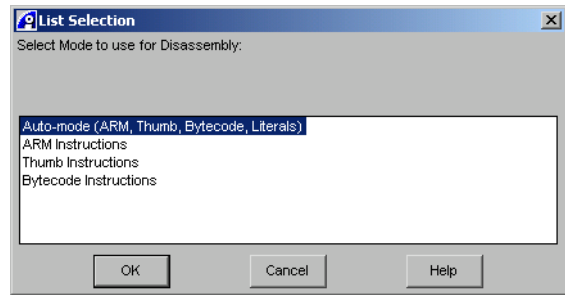

Figure 4-1 Disassembly Mode selection box
4. Select **Set Disassembly Format...** from the context menu to see the Disassembly Mode selection box, shown in Figure 4-1 on page 4-6.